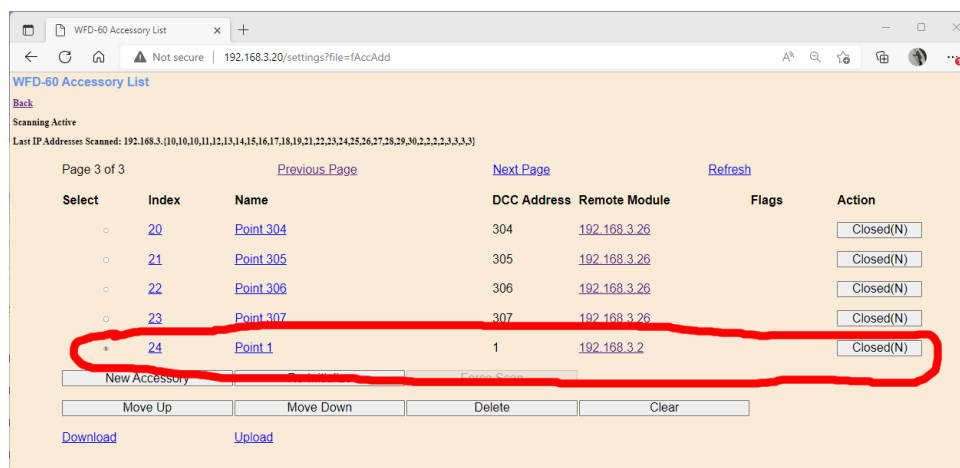

Figure 59 The Accessories List Page after the New Accessory Button is Clicked.
- (1) By the WFD-60 Scanning Process. The WFD-60 automatically scans a range of IP Addresses on your home network between the bounds defined in the Settings page as First Scan Address and Last Scan Address. The scanning process only occurs if the Rail Mesh Scanning Enabled checkbox is checked or if you initiate a forced scan. Scanning is enabled by default after leaving the factory and after a factory reset. By default, the First Scan Address is set to 2 and the last is set to 30. If you have many computers or devices on your home network, you might need to extend this.
- (2) By adding Accessories manually. The New Accessory button on the Accessories List page will add a new accessory to the roster. The new accessory, in Figure 59, will have default values which will not normally represent an accessory on your layout, so you will have to define the settings manually as in Figure 60.
Clicking the hyperlink on Figure 59 formed by the index or the name of the Accessory, will open the Accessory Edit page in Figure 60. Do not click the Remote Module hyperlink at this time.